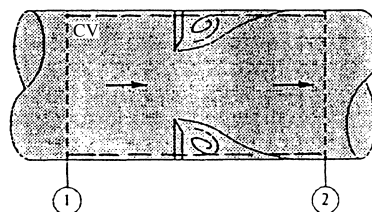

Fig. P3.85
3.85 The thin-plate orifice in Fig. P3.85 causes a large pressure drop. For 20°C water flow at 500 gal/min, with pipe $D = 10 \text{ cm}$ and orifice $d = 6 \text{ cm}$, $p_1 - p_2 \approx 145 \text{ kPa}$. If the wall friction is negligible, estimate the force of the water on the orifice plate.